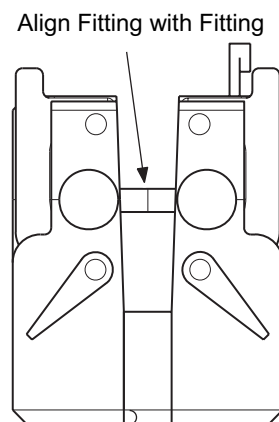

Figure 23 Aligning the Micro-Fit Fittings
7. Align the two Micro-Fit fittings by adjusting the side plate that is loose. See Figure 23.